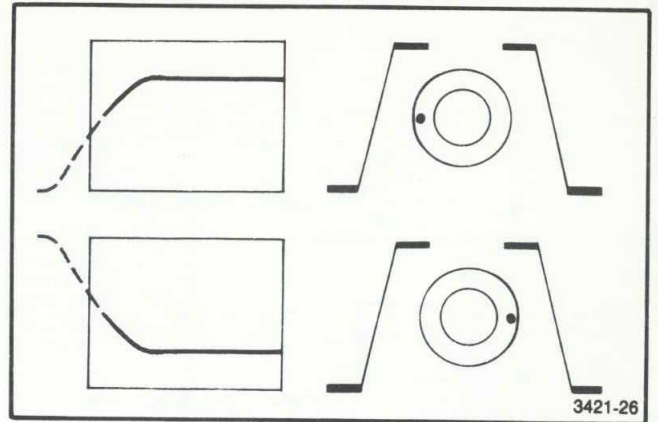

Fig. 3-25. Trigger Setting.
2. Set the level and slope with the TRIGGER control as a conventional oscilloscope. The left-hand-side rotation of the TRIGGER control gives plus (+) slope, and the right-hand-side minus (−) slope (Fig. 3-25). The level zero occurs at the 9 and 3 o'clock positions.